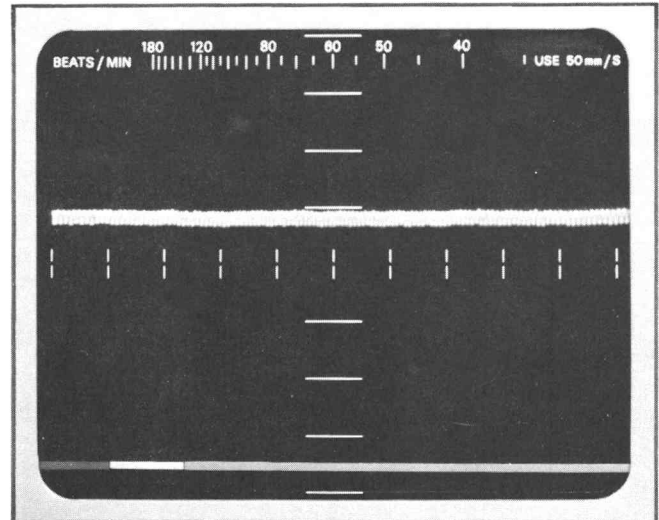

Fig. 5-2. Typical CRT display when checking CMRR (0 Ω Source Impedance Unbalance).
b. CHECK—The Type 410 display amplitude is ≤ 2 mm (CMRR of $\geq 500,000:1$, or $\leq 10 \mu V$ of a 5-volt signal). See Fig. 5-2.